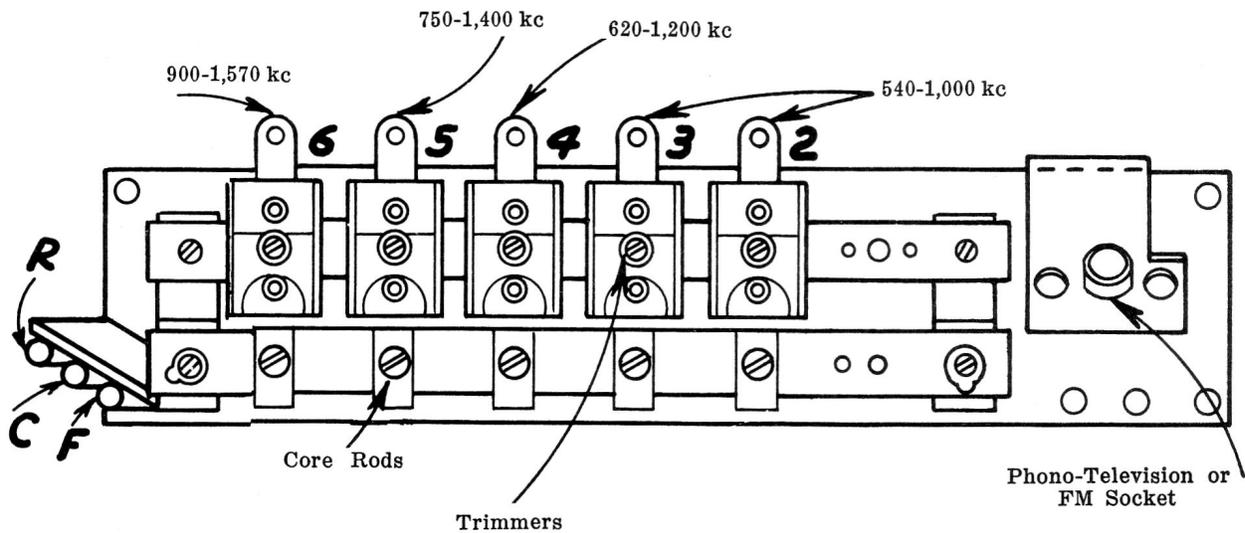

Fig. 4
(1) Turn "Range selector" to "A" position and manually tune in the first station, say 560 k.c.
(2) Turn "Range selector" to "P.B." position, press button No. 2 located second from left on front panel.
(3) Referring to Figure 4, adjust core and trimmer No. 2 for a peak at 560 k.c.
(4) Proceed to adjust the other four stations in order of frequency, as outlined above.